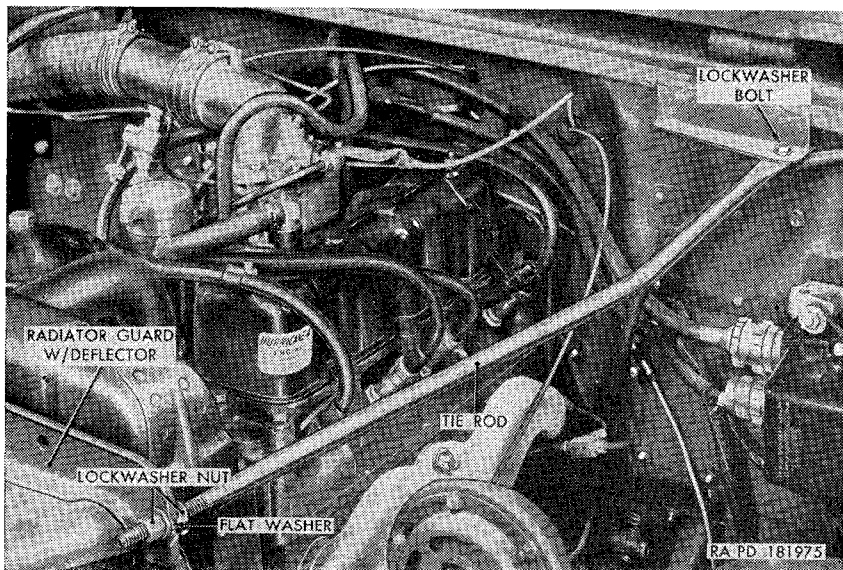
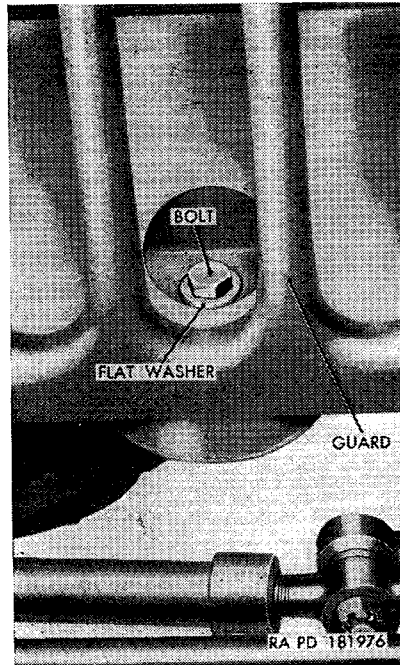

Figure 194. Dash-to-air deflector tie rod—installed on left side of radiator guard.
Figure 195. Radiator guard with deflector—bottom connection.
(1) Proceed as directed in paragraph 257a(1) through (4).
(2) Loosen the outer lockwasher nut (fig. 194) on each of the two dash-to-air deflector tie rods sufficiently so that flat washers on the rod will clear the projections on the air deflector of the radiator guard with deflector. Pull the rods outward until they are clear of the deflector.
(3) Remove the locknut and flat washer from the bolt (fig. 195) securing the bottom of the radiator guard with deflector to the bracket on the frame front cross member. Remove the bolt and flat washer from the guard and bracket. Pull the radiator guard forward until the guard slots are clear of the fender screws. Remove the guard from the vehicle.
- (4) Pull the rubber washer from the bottom of the spacer installed in the bracket on the frame front cross member. Lift the other rubber washer with the spacer from the top of the bracket.
- (5) Remove the nut and lockwasher bolt (fig. 194) securing the rear of each tie rod to the bracket on the dash. Remove the two tie rods.
- (6) Proceed as directed in paragraph 257a(6) and (7).
- (2) Install the spacer in the opening provided in the bracket on the frame front cross member. Install one rubber washer on the top end of the spacer.
- (3) Place the radiator guard with deflector in position at the front of the vehicle. Aline the hole at the bottom of the guard with the spacer hole, install one  $\frac{7}{16}$ -inch flat washer on the  $\frac{7}{16} \times 2\frac{1}{4}$  bolt (fig. 195) and insert the bolt through the guard and spacer. Install one  $\frac{7}{16}$ -inch ID, 2-inch OD flat washer, and  $\frac{7}{16}$ -inch locknut on the bolt, but do not tighten nut at this time.
- (4) Enter the two lockwasher screws on the bottom of the guard into the mounting slots in the fenders. Enter the four lockwasher screws in the fenders into the mounting slots of the guard. Tighten all six screws.
- (5) Tighten the  $\frac{7}{16}$ -inch locknut installed on the bolt at the bottom of the guard.
- (6) Secure guard to radiator by screwing two  $\frac{5}{16} \times \frac{5}{8}$  bolts into the radiator-to-guard panel clips on each side of guard.
- (7) Position the flat end of each dash-to-air deflector tie rod on the bottom of the bracket on the dash. Secure each rod to bracket with one  $\frac{5}{16} \times \frac{7}{8}$  lockwasher bolt (fig. 194) and  $\frac{5}{16}$ -inch nut.
- (8) Insert the front end of each rod between the projections on the deflector of the guard, making sure a flat washer is on each side of the projection. Tighten the outer  $\frac{3}{8}$ -inch lockwasher nut (fig. 194) on each rod to brace the guard.
- (9) Proceed as directed in paragraph 257b (5) and (6).